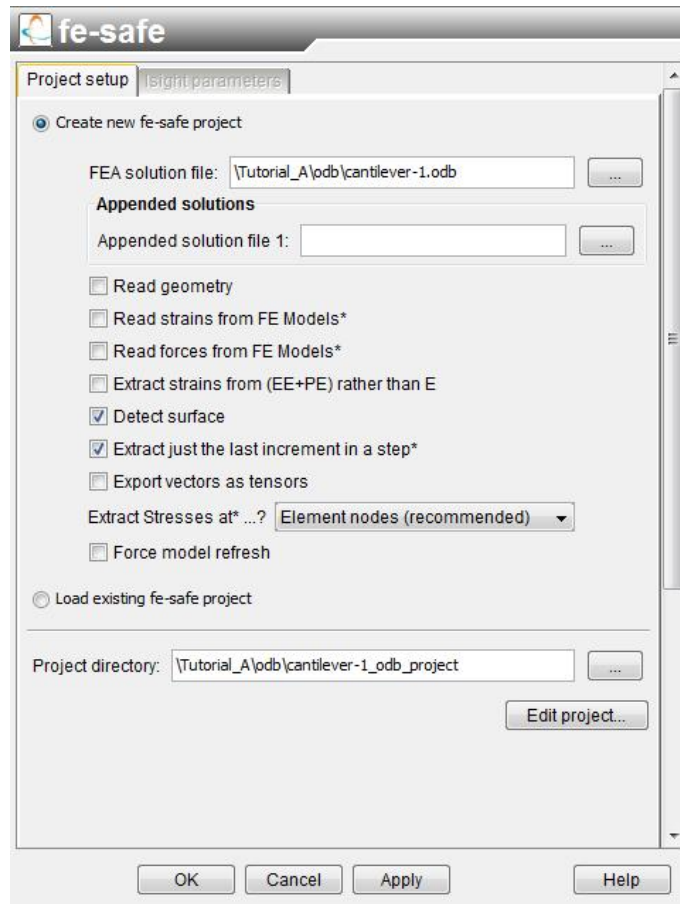

Figure 5-4: The *fe-safe* component with selected solution file and default project directory
- 3) Click the button next to **FEA solution file**;, navigate to the folder <DataDir>\Tutorial_A\odb\, select cantilever-1.odb and then click **Open**. The dialog box will look similar to Figure 5-4. Note that the the component automatically suggests a directory in which to save the project.